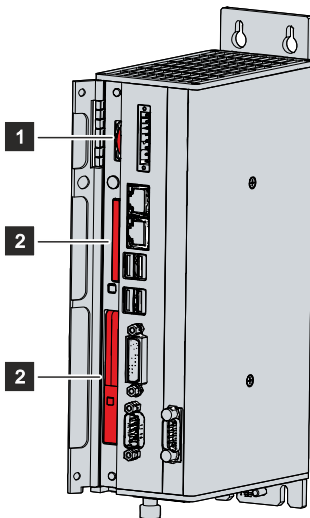

Fig. 23: C6920_Battery and storage media
You now have access to the battery (1) and storage media (2) (see Fig. 23).